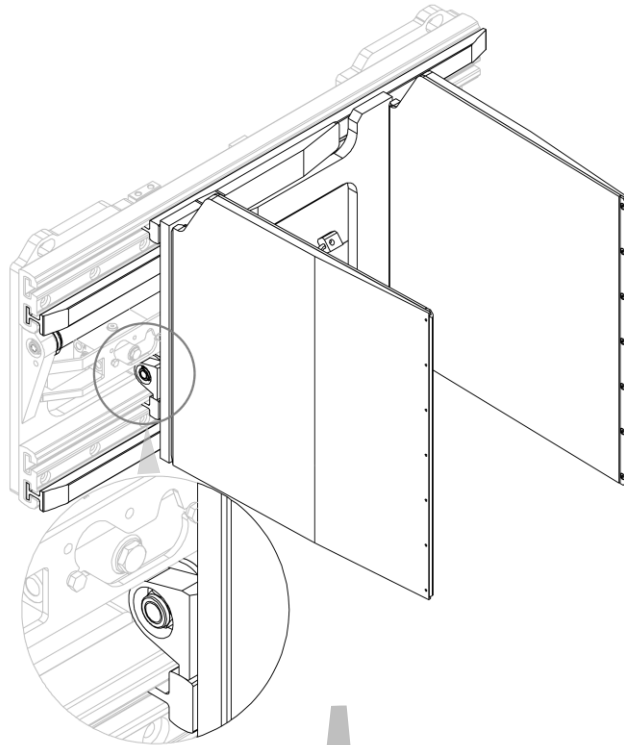
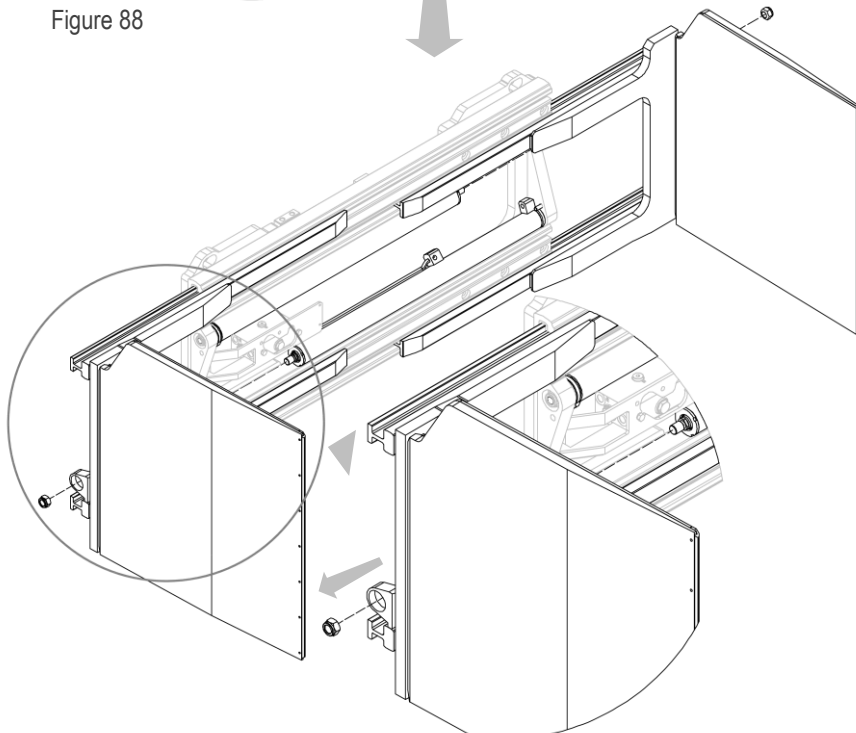

Figure 88
Figure 89
2. Remove the forks, one at a time, from their housings after removing the nuts that secure them to the cylinders (see *Figure 88* and *Figure 89*)